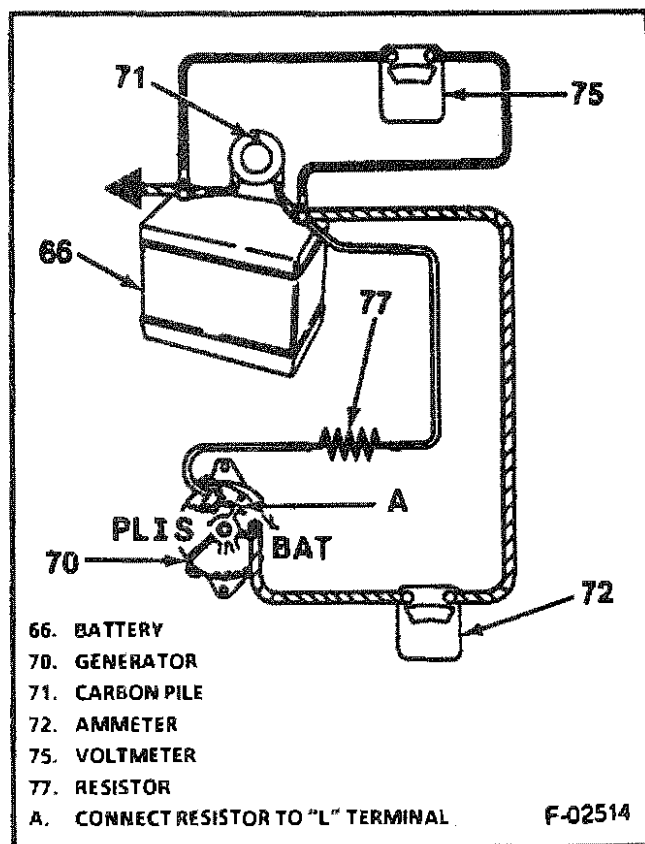

Figure 9 - Connections for Generator Output Test
1. Make connections as shown in Figure 9, except leave the carbon pile disconnected. The ground polarity of the generator and battery must be the same. The battery must be fully charged. Use a 30 to 500 ohm resistor between the battery and the "L" terminal.